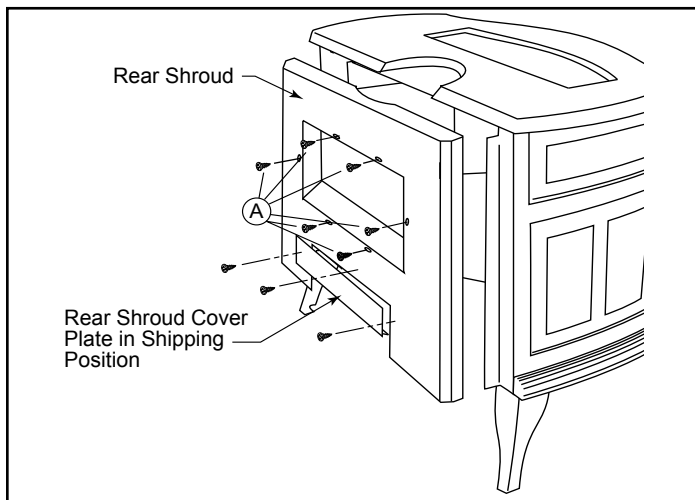

Figure 18 - Remove rear shroud cover plate and rear shroud.
1. Remove the rear shroud. (Figure 18) Use work gloves to protect your hands. Remove the rear shroud cover plate. Remove the six (6) sheet metal screws ('A', Figure 18) surrounding the draft hood opening. Remove the shroud and set aside.